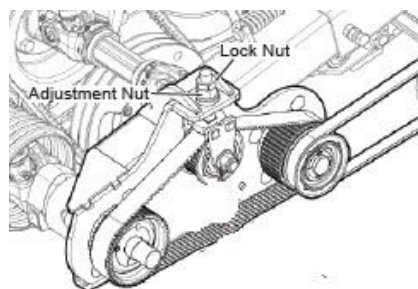

Figure 58
3. Install the right-hand GT drive cog-belt. Figure 58 Use the adjustment bolt to tighten the belt to